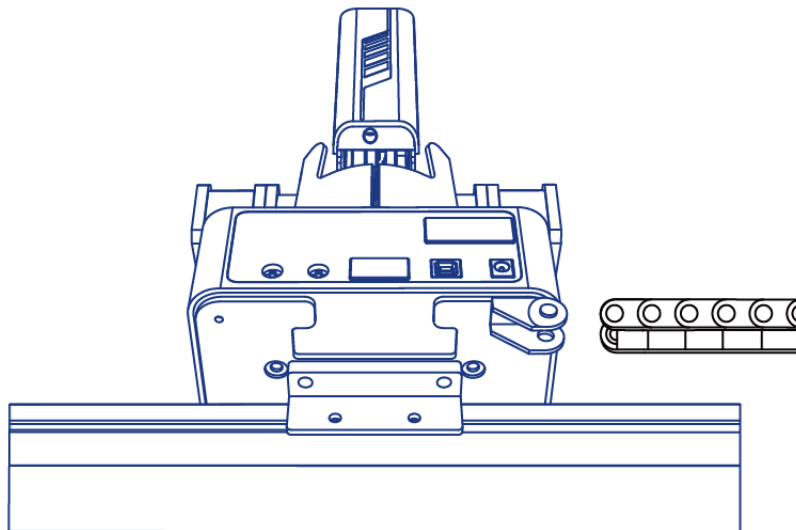

Figure 5.189 Connect with wire set
Step 3 Connect the end of the wire set to its male connector, as shown in Figure 5.189.